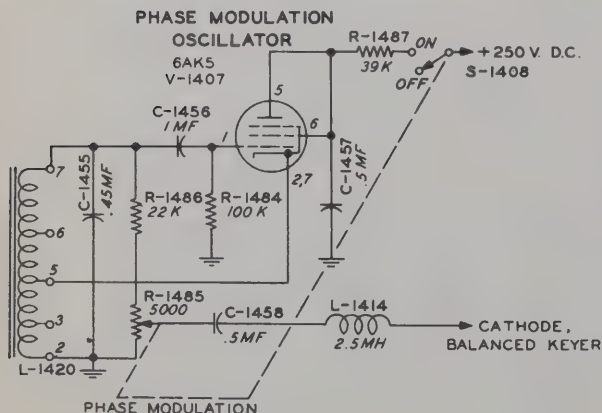

Figure 109. Frequency-Shift Keyer KY-45/FRT-5, Phase-Modulation Oscillator, Schematic Diagram.
- (6) *Phase-modulation oscillator (fig. 109).* The phase-modulation oscillator is a simple Hartley oscillator tuned to 200 cycles. This 200-cycle oscillator provides a voltage across R-1455 such that up to one radian of phase modulation (at 850 cycles total shift) is possible on the output signal. The use of phase modulation permits frequency diversity, which is a decided advantage in the presence of severe multipath distortion in radio transmission.